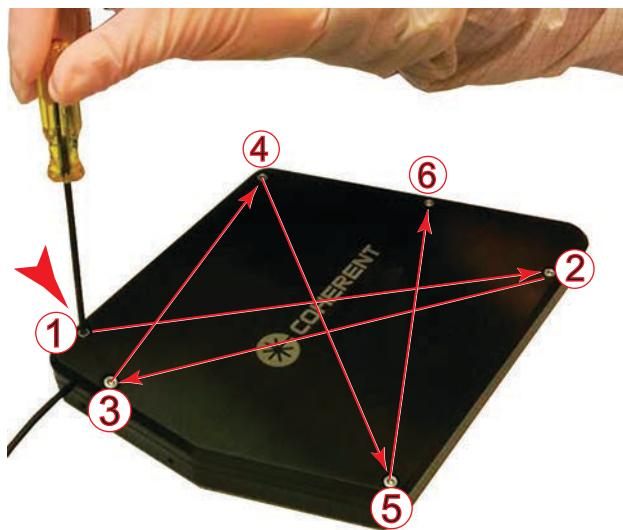

Figure 13-16. Tightening Pattern to Secure Cover
6. Using the 7/64" hex wrench, secure the OBIS Galaxy box cover by firmly tightening the six top cover screws **in the sequence shown in Figure 13-16**.